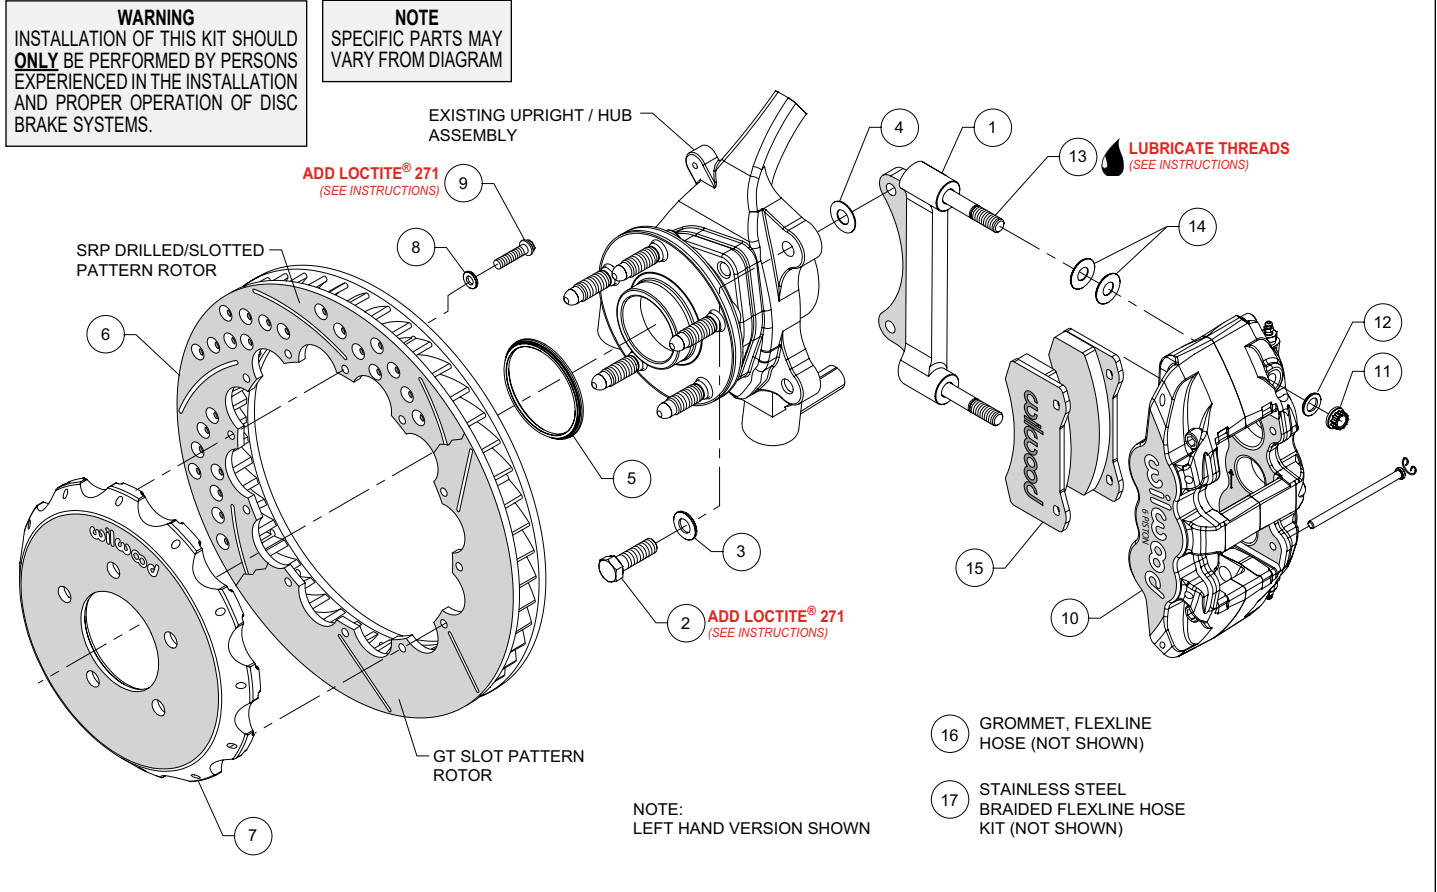
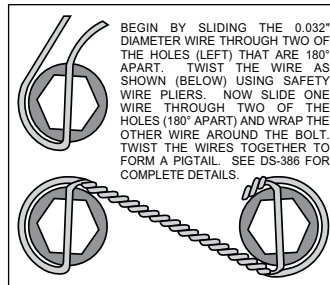

Figure 1. Typical Installation Configuration
Figure 4. Safety Wire Diagram
**Assembly Instructions** (numbers in parenthesis refer to the parts list and Figure 1 on the preceding pages):
- The caliper mount bracket (1) should initially be installed with clean, dry threads on the mounting bolts. Orient the bracket as shown in Figure 1, and Photo 1 and install using washers (3) and bolts (2). Initially place one shim (4) on each bolt between the bracket and upright, Figure 1. Temporarily tighten the mounting bolts. **NOTE: The bracket must fit squarely against the mount bosses on the upright.** Inspect for interference from casting irregularities, machining ridges, burrs, etc. Later, after the caliper alignment has been checked, the mount bolts will be secured using red *Loctite*® 271.
- Orient the rotor (6) and the hat (7) as shown in Figure 1 and Photo 2. Attach rotor to hat using bolts (9) and washers (8). Apply red *Loctite*® 271 to the bolt threads and torque to 155 in-lb using a criss-cross pattern. For an added measure of security, the bolts may be safety wired using standard 0.032 inch diameter stainless steel safety wire as shown in Figure 4. Please refer to Wilwood's data sheet DS-386 (available at [www.wilwood.com/Pdf/DataSheets/ds386.pdf](http://www.wilwood.com/Pdf/DataSheets/ds386.pdf)) for complete safety wire installation instructions.
- **NOTE: This kit contains distinct right and left hand calipers that must be mounted in a specific direction, as described below.** Lubricate the caliper mounting studs (13) with lightweight oil. Initially place two .030" thick shims (14) on each stud as shown in Figure 1 and Photo 5. Mount the caliper (10) onto the bracket (1) using lock nuts (11) and washers (12), Figure 1. Ensure that the caliper is mounted so that the largest pistons are at the rotor exit end of the caliper, in relation to the direction of rotor rotation. Temporarily tighten the lock nuts and view the rotor through the top opening of the caliper. The rotor should be centered in the caliper, Photo 6. If not, adjust by adding or subtracting shims (4) between the bracket and the upright. Always use the same amount of shims on each of the two mounting bolts. Once the caliper alignment is correct, remove the bracket mounting bolts (2) one at a time, apply red *Loctite*® 271 to the threads, and torque to 60 ft-lb.
- Remove the two pad retaining pins from the caliper (10) by carefully popping out the pin retaining clips and sliding out the pins. Insert the brake pads (15) into the caliper from the bottom, Figure 1 and Photo 7. With the friction material facing the rotor, secure the brake pads in place with the pad retaining pins and clips, Photo 8. Reinstall the caliper onto the caliper mounting bracket and temporarily tighten the lock nuts. Check that the top of the brake pad is flush with the outside diameter of the rotor, Photo 9. If not, adjust by adding or subtracting shims (14) between the caliper and the bracket. After the caliper pad height is set, torque the caliper lock nuts (11) to 47 ft-lb.